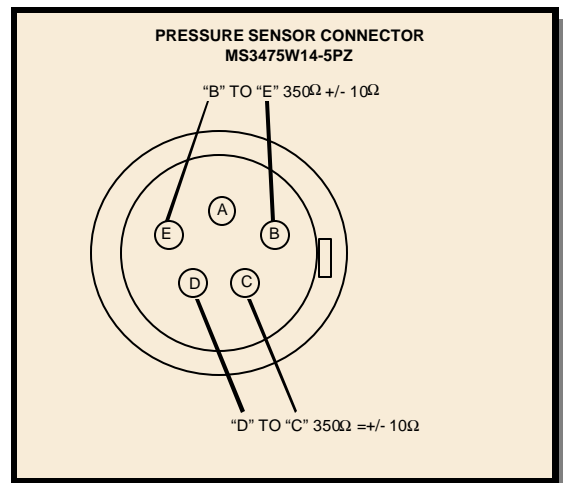

FIGURE 4.21 PRESSURE CONNECTOR
2. With the Digital Multimeter (DMM) set to the Ohms range, measure the resistance between pins "C" an "D" of connector MS3475W14-5PZ (see Figure 4.21). *The resistance should be $350\Omega \pm 10\Omega$*